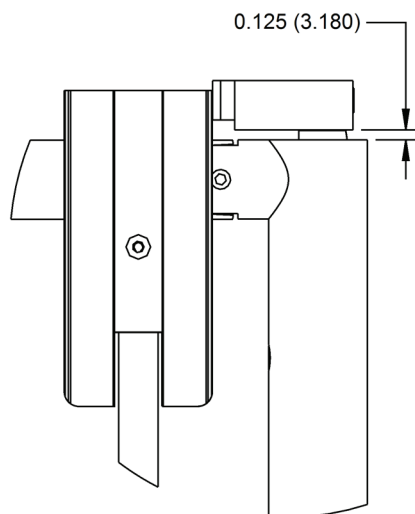

Figure 5-6
- Figure 5-6 is for the minimum height from the top of the Tube to the bottom of the Strike.